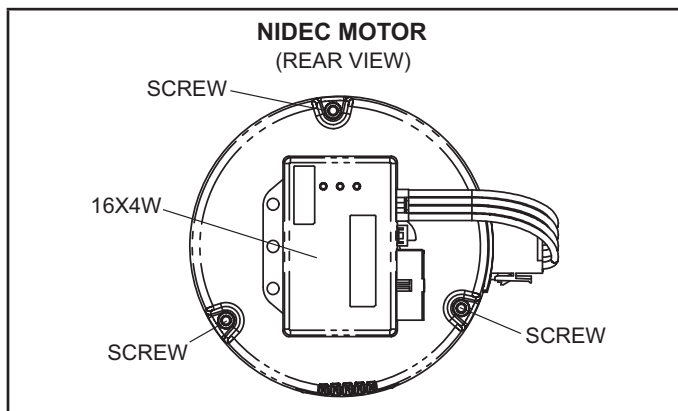

FIGURE 2
- 5 - Remove the three screws securing the motor to the control module (see Figure 2). The control module will separate from the motor. Set the screws aside.